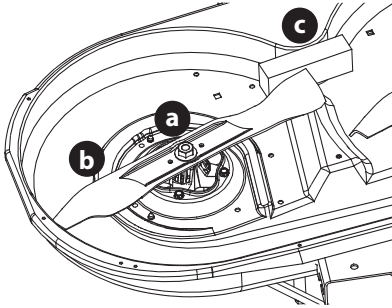

Figure 58
- Place a block of wood (c) between the deck housing and the cutting edge of the blade (b) to help in breaking loose the hex nut (a) securing the blade (b). Use a 15/16 inch wrench to loosen the hex nut (a) (Figure 58).